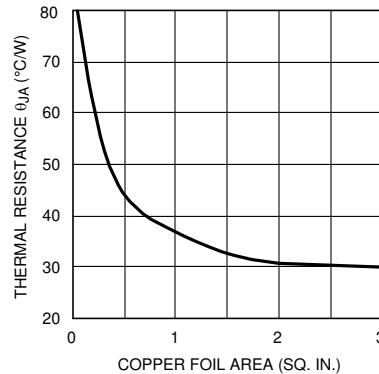

图 6-4. Thermal Resistance (Typical) for 7-L DDPAK Package Mounted on 1 oz. (0.036 mm) PC Board Foil
5. Choose a copper area that will ensure the specified $T_{J(MAX)}$ for the calculated θ_{JA} . θ_{JA} as a function of copper area in square inches is shown in Figure 6-4.
4. Finally, using this value for θ_{JA} choose the minimum value of copper area from Figure 6-4.
Examining 图 6-4, we see that we cannot attain this low of a thermal resistance for one layer of 1 oz copper. It will be necessary to derate the part by decreasing either the ambient temperature or the power dissipation. Other solutions are to use two layers of 1 oz foil, or use 2 oz copper (see 表 6-1), or to provide forced air flow. One should allow about an extra 15% heat sinking capability for safety margin.